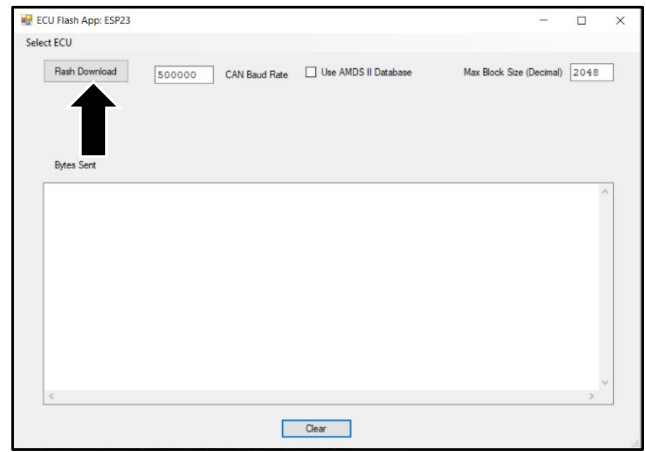

Figure 11
20. Select "Flash Download" (refer to Figure 11).